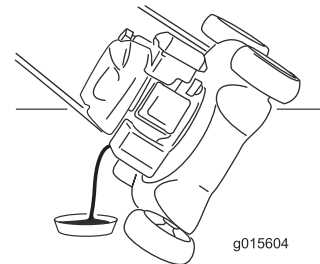

Figure 29
7. Tip the machine onto its side, with the oil-fill tube down, to drain the used oil out through the oil-fill tube into the oil-drain pan (Figure 29).